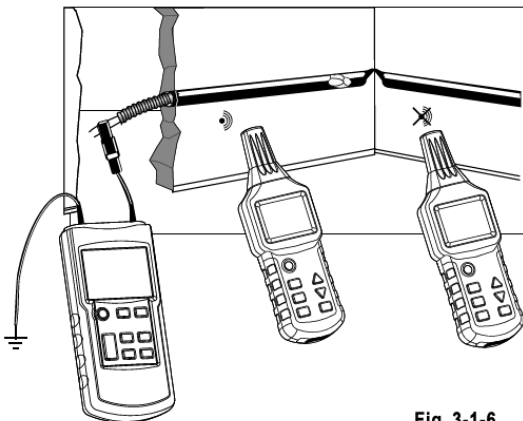

Fig. 3-1-6
- The transmitter must be connected to a metallic pipe coil (metallic pipe or flexible protective pipe) and an auxiliary ground as shown in Fig. 3-1-6.